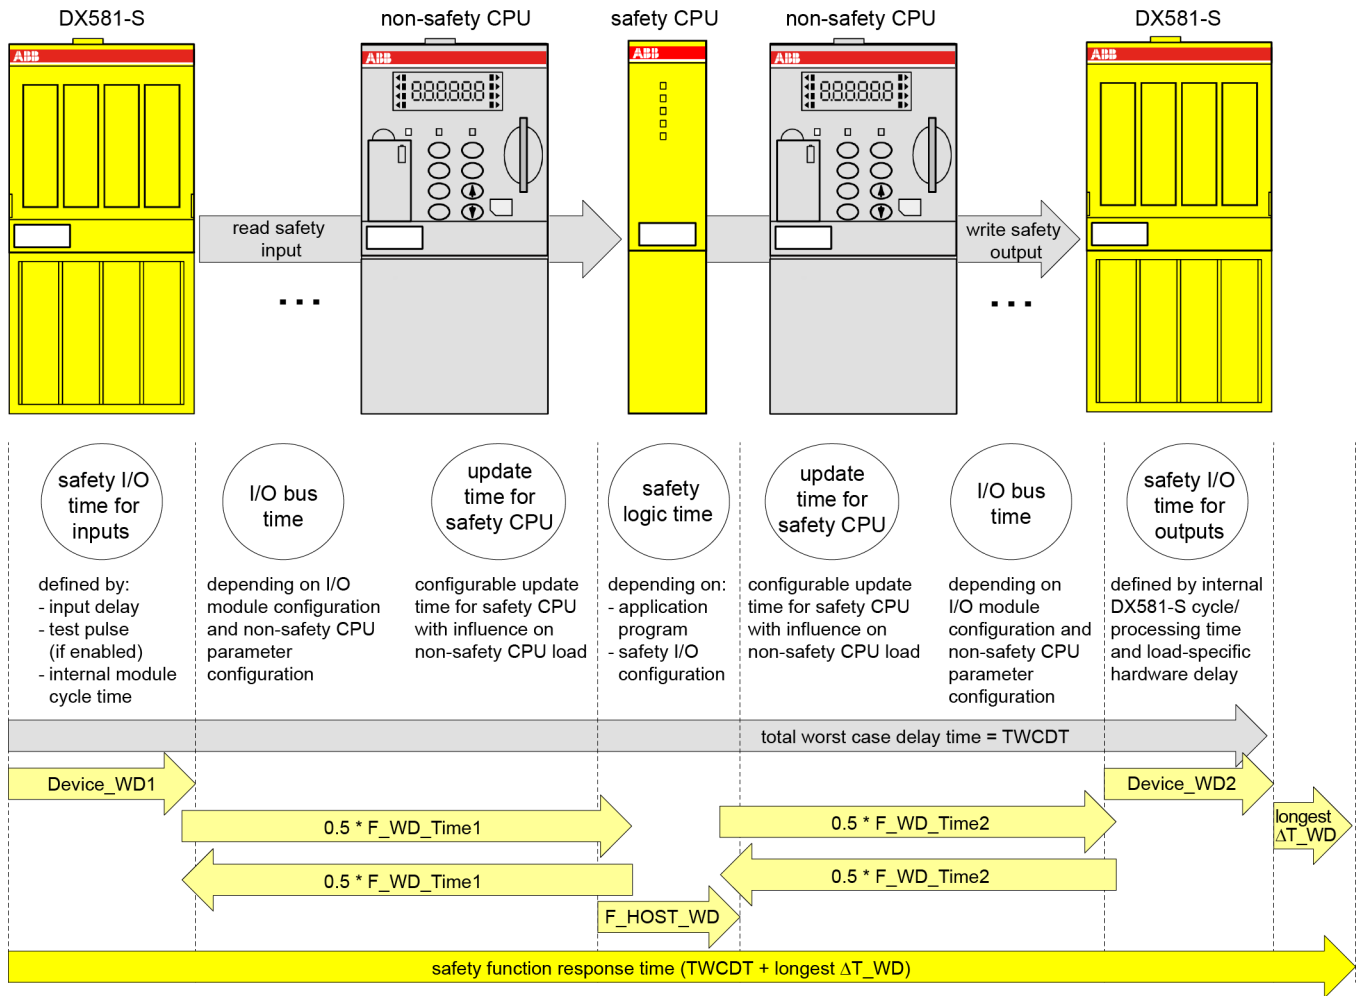
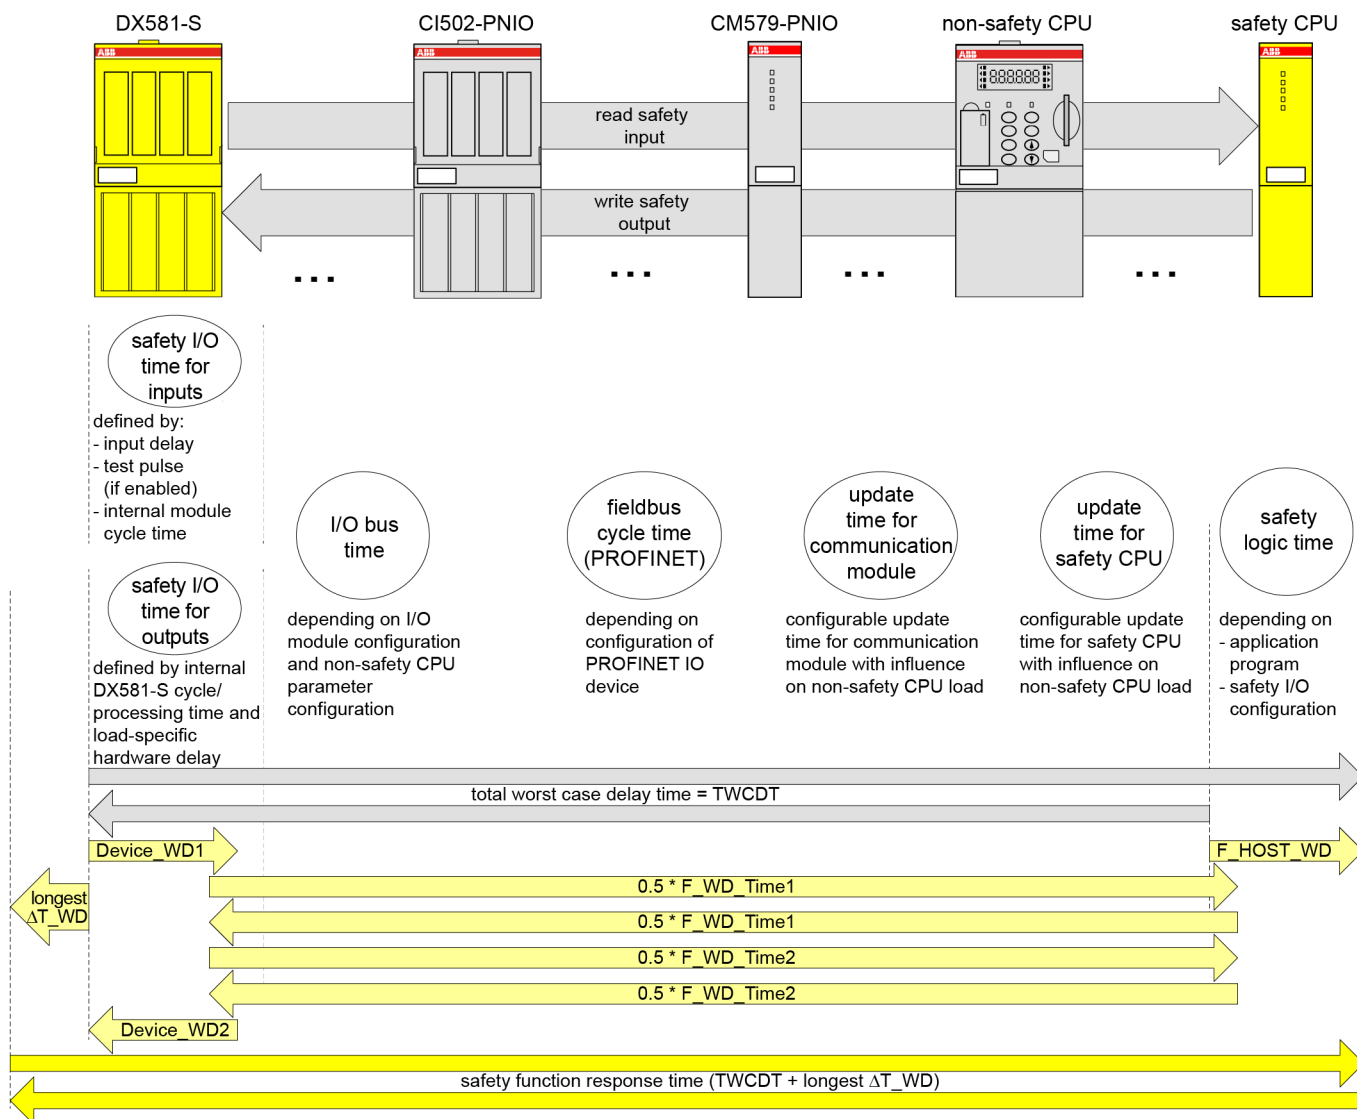
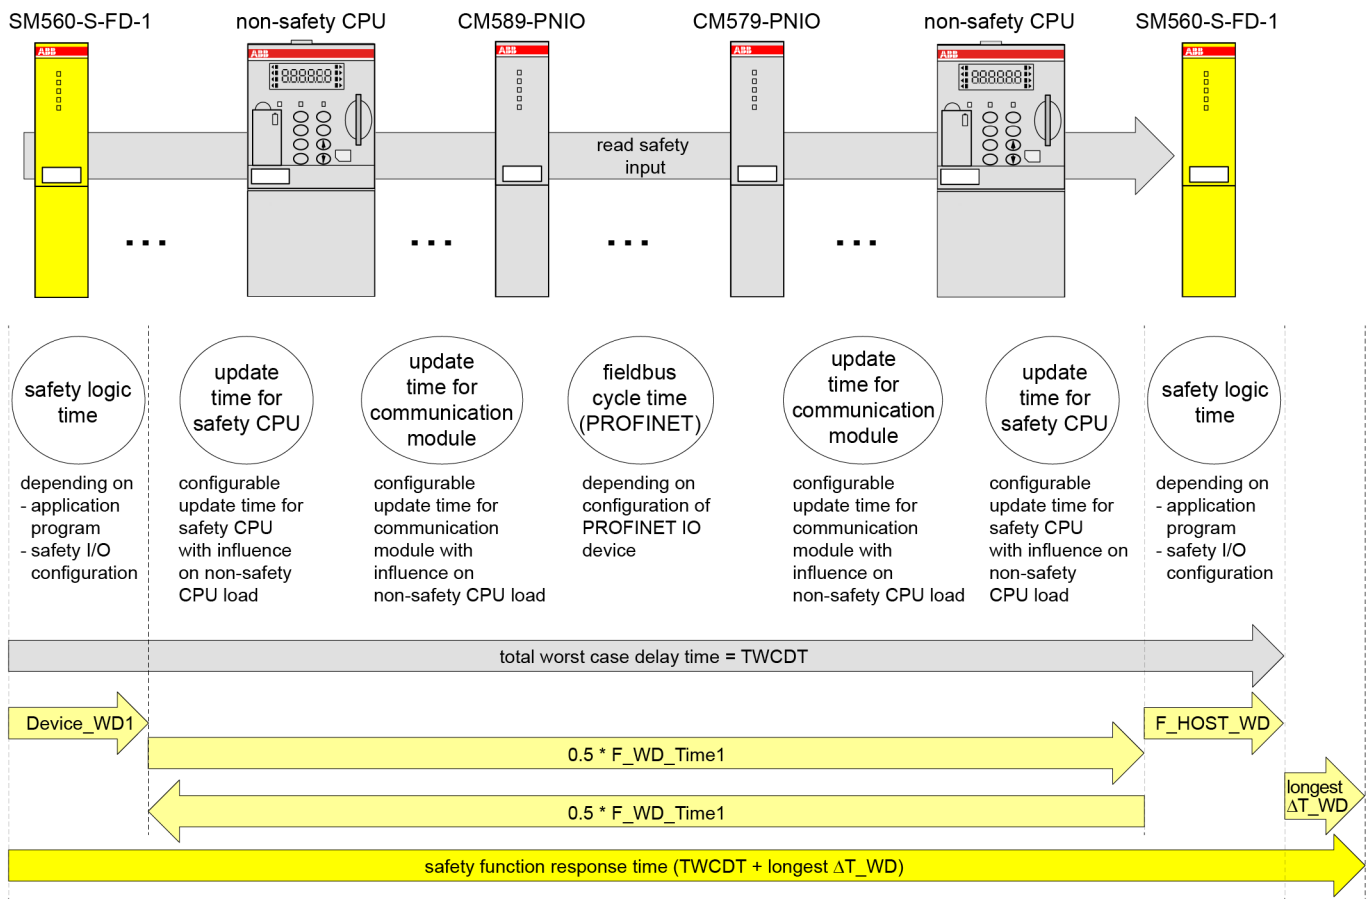

Fig. 118: SFRT in AC500-S system without PROFINET components
Fig. 119: SFRT in AC500-S system with PROFINET components and safety I/O modules
Fig. 120: SFRT in AC500-S system with PROFINET components and safe CPU to CPU communication (example: SM560-S-FD-1 to SM560-S)
Fig. 118, Fig. 119 and Fig. 120 explain SFRT in more details. The model in Fig. 118 and Fig. 119 includes the stages of input signal reading, safe data transfer, safe logic processing, safe data transfer and safe signal output. The model in Fig. 120 presents safe CPU to CPU communication, which includes the stages of safe logic processing, safe data transfer and safe logic processing.
The following terms are defined in Fig. 118, Fig. 119 and Fig. 120 (in alphabetical order):
- Device_WD1 and Device_WD2, as worst case delay times for safety I/Os, can be defined as it is shown in Fig. 118 and Fig. 119.
- To calculate the worst case delay time of "Black channel" components (refer to AC500 non-safety modules in Fig. 118 and Fig. 119), we propose to use half of F_WD_Time1 and F_WD_Time2 instead. F_WD_Time1 and F_WD_Time2 can be empirically obtained for the given AC500 system configuration by tracing the values of tResponseTimeMS for given safety I/Os in the safety application. Use PROFIsafe instance for the given safety I/O
Based on Fig. 118, Fig. 119 and Fig. 120, the following exemplary SFRT values can be achieved for some typical AC500-S configurations using ↪ *Equation 2 on page 321:*